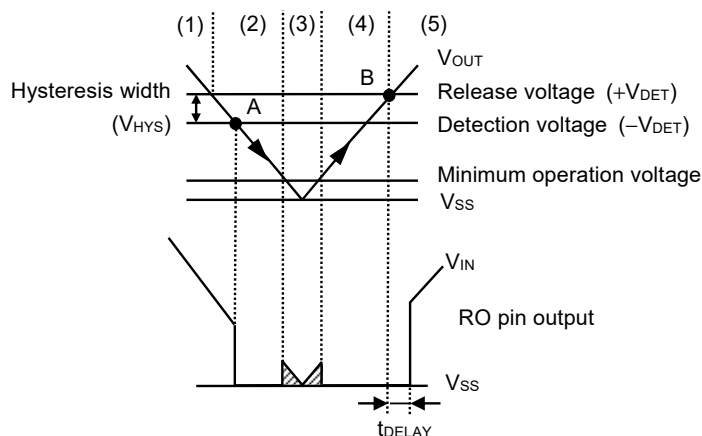

Figure 21 Timing Chart
- (2) Even if V_{OUT} decreases to $+V_{DET}$ or lower, the RO pin output is "H" when V_{OUT} is the detection voltage ($-V_{DET}$) or higher. When V_{OUT} is $-V_{DET}$ (point A in **Figure 21**) or lower, N1 of output stage is on, and the RO pin output is "L".
- (3) When V_{IN} decreases following V_{OUT} to the IC's minimum operation voltage or lower, the RO pin output is unstable.
- (4) When V_{IN} increases and is the IC's minimum operation voltage or higher, the RO pin output is "L". Moreover, even if V_{OUT} exceeds $-V_{DET}$, the RO pin output is "L" when V_{OUT} is lower than $+V_{DET}$.
- (5) When V_{OUT} further increases to $+V_{DET}$ (point B in **Figure 21**) or higher, the delay circuit operates. The RO pin output is "H" after the elapse of the release delay time (t_{DELAY}).